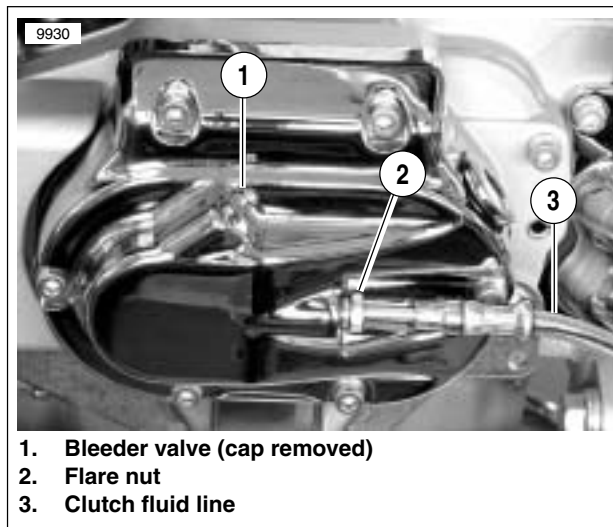

Figure 2-22. Clutch Release Cover (exhaust system removed)
2. See Figure 2-22. Place a suitable container under clutch release cover.